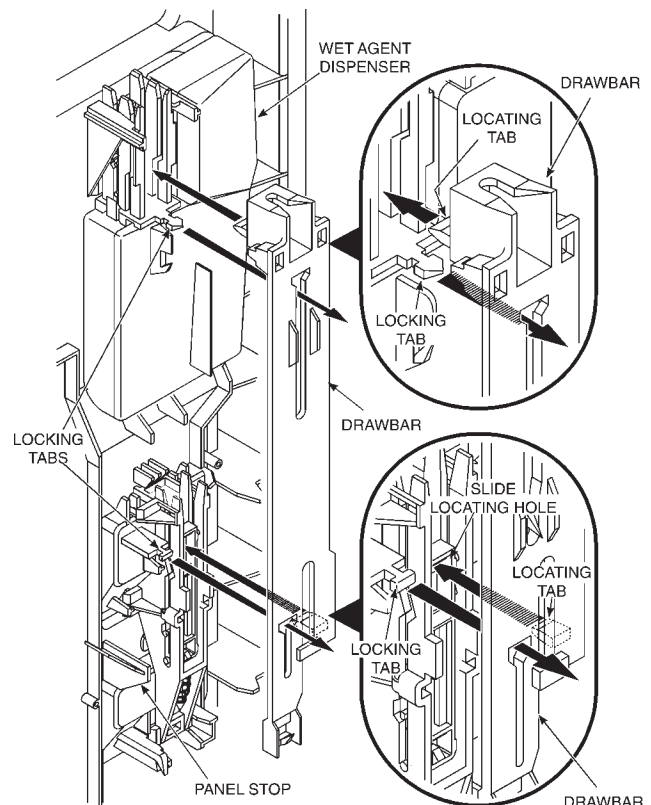

Fig. 3-11
2. Grasp the lower edge of the drawbar and pull it away from the panel stop. Slide the drawbar down until the drawbar holes align with the locking tabs, then remove the drawbar. Note how the locating tabs behind the drawbar align with their respective locating holes in the drawbar. (Fig. 3-11)
10. Install the drawbar by referring to the details in Figure 3-11. Be sure the actuator slide is positioned against the wet agent dispenser. Align the drawbar holes over the locking tabs. Look behind the drawbar and make sure to engage the locking tabs with their respective locating holes. Press the drawbar into position and slide it upward behind the locking tab ears.